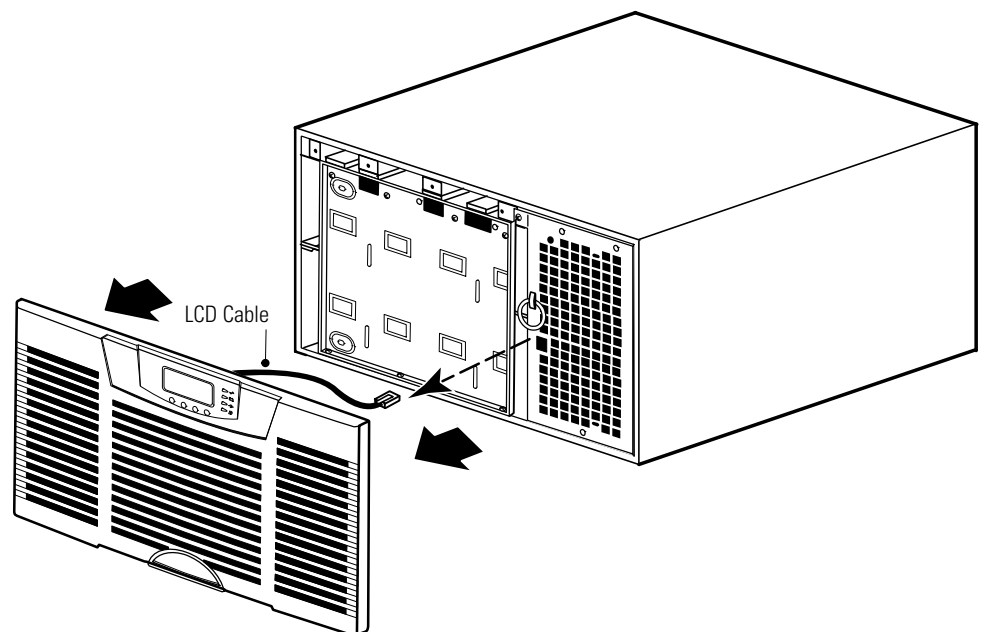

Figure 55. Removing the UPS Front Cover
2. Remove the UPS front cover and set it aside (see Figure 55):